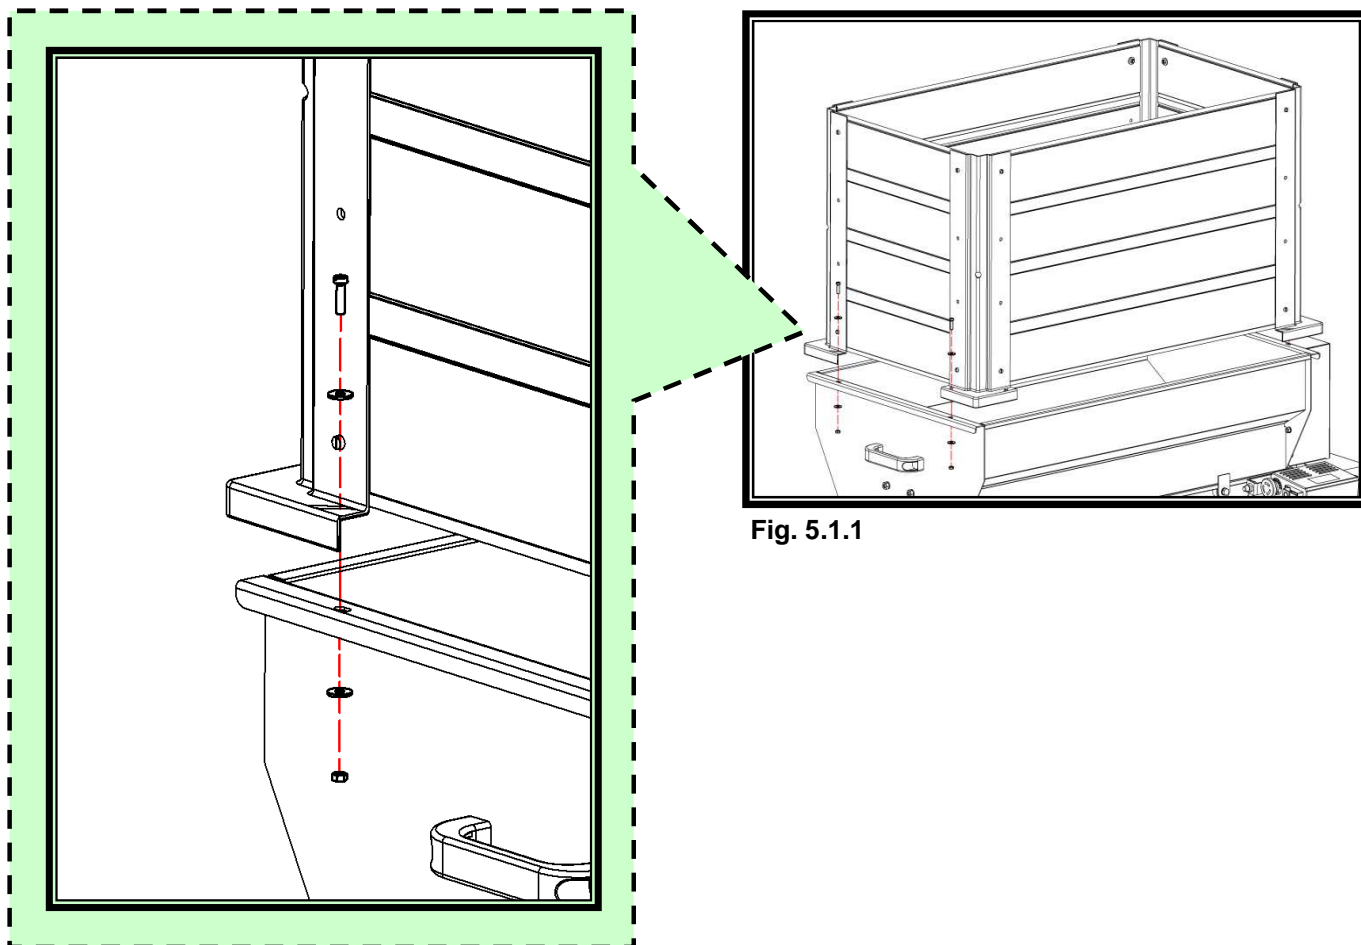

Fig. 5.1.1
2. Attach the safety container to the hopper using the screws provided, as indicated in figure 5.1.1